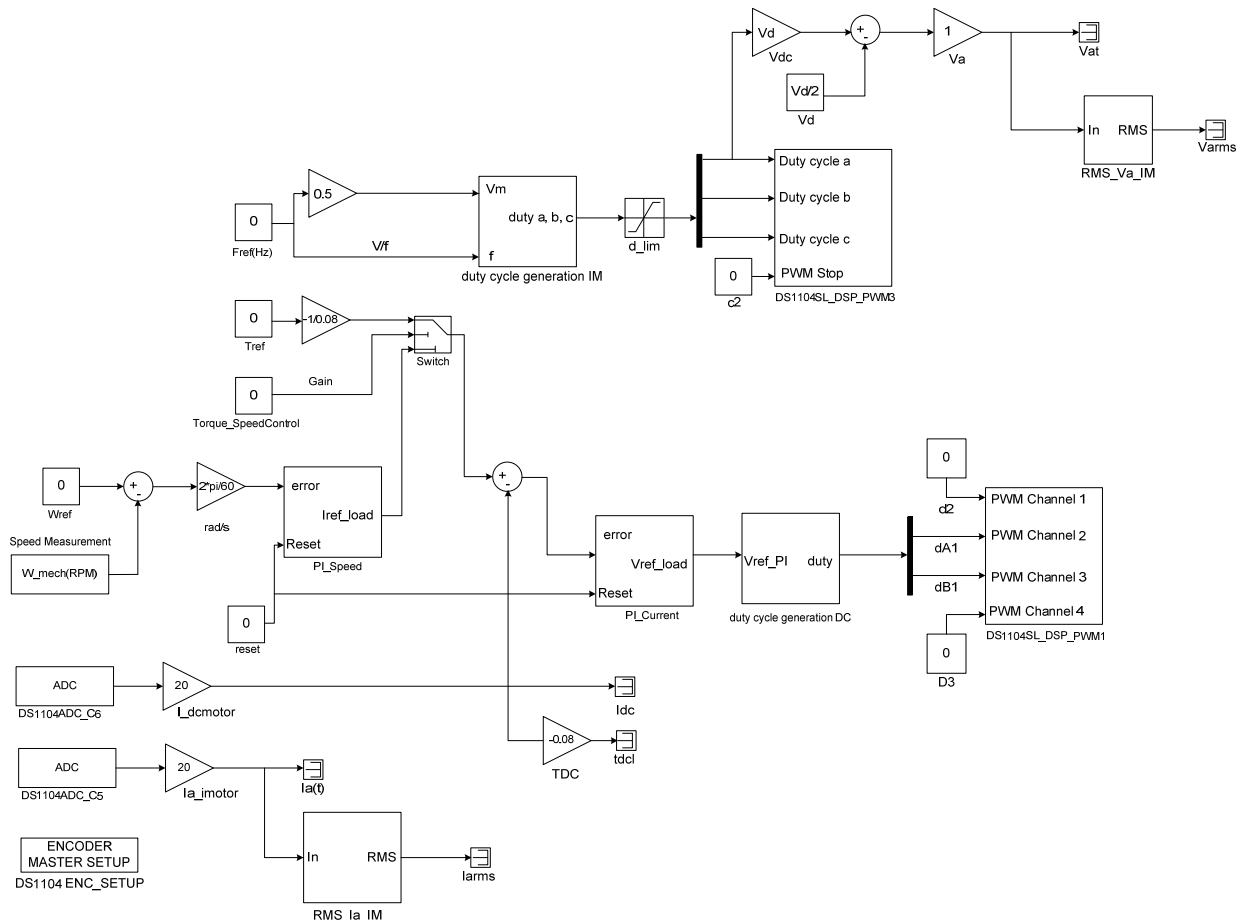

Figure 9.1: Torque Speed Simulink File
- Set $V_d=42$, $T_s=1e-4$ at the Matlab Command prompt. Open the Simulink file **Torque_Speed.mdl** and build it (Ctrl+B) as shown in Fig 9.1. Here the induction motor is V/f controlled. The induction motor is coupled to a DC motor and this DC motor is run under Torque control or Speed Control.